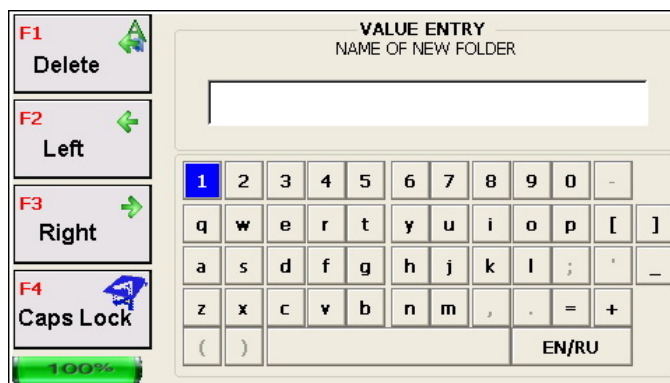

Figure 7.9
7.3.3.2 In order to enter a file name for automatic saving pass to the line “**File name for saving**” and press the button **SEL** - a standard keyboard will appear on the screen – see 7.5.1.2 and **Figure 7.9**.
press the button **F3** →  which will bring the window with the keyboard shown in **Figure 7.9**. A new folder is created with the help of the keyboard as it is described in **7.5.1.2**.
The button **F1** →  being pressed, the keyboard shown in **Figure 7.9** will appear on the screen.
When you press the button **F3** →  the keyboard shown in **Figure 7.9** will appear on the screen. The new folder is created with the help of the keyboard as it is described in **7.5.1.2**.